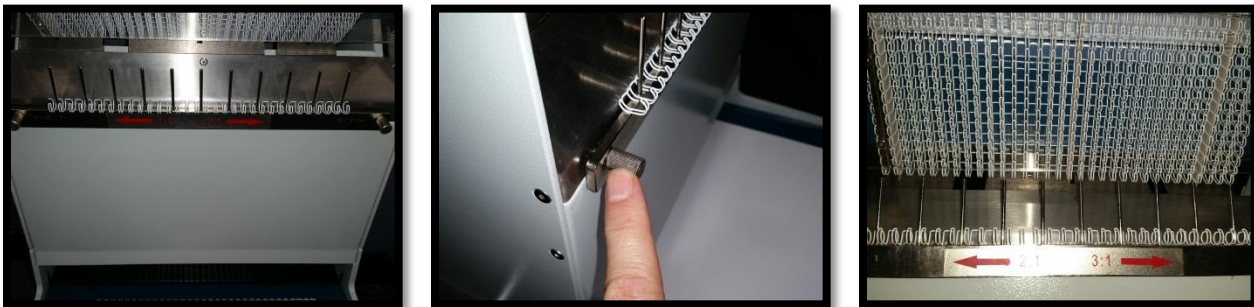

Figure 9
- d. **Wire-O Hanger Adjustment:** There are two settings for the wire holder. You can move it laterally to the left or right for 3-1 or 2-1 sizes. It also is adjustable in and out to stabilize the wire as the book is being loaded. Figure 9